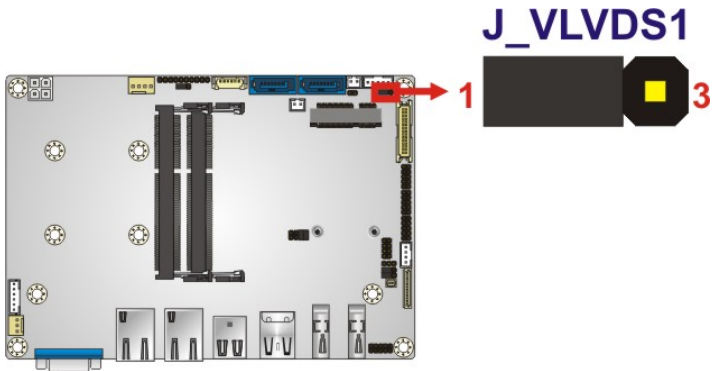

Figure 4-5: LVDS Voltage Selection Jumper Location
- Jumper Location:** See Figure 4-5